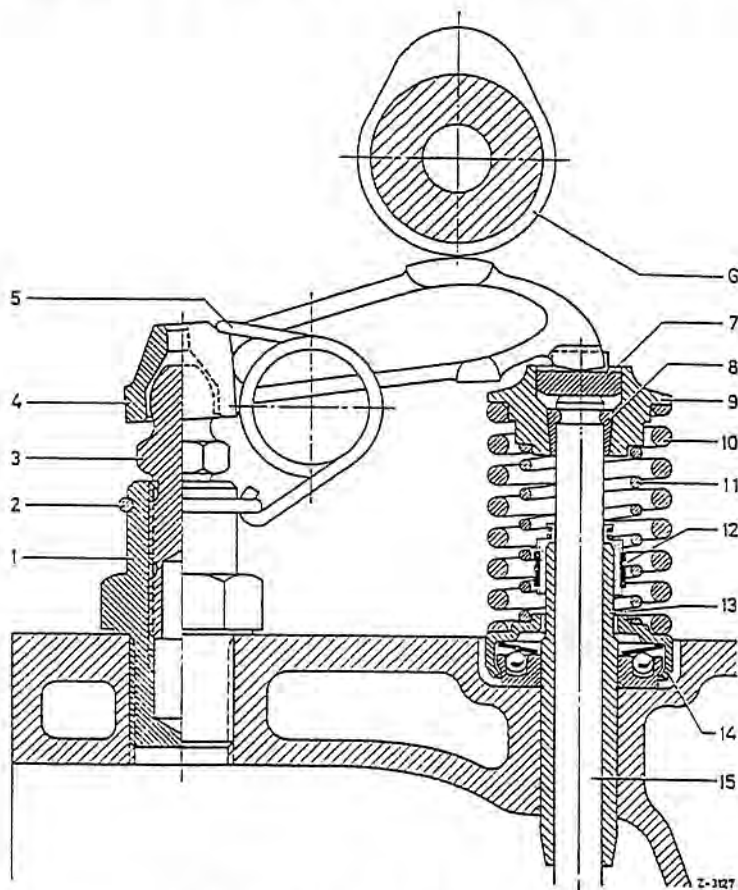

Fig. 00-3/1
On all gasoline and gasoline injection engines of Models 190 c to 250 SL the tappet clearance is measured between the sliding surface of the rocker arm and the cam base circle of the camshaft, on Models 300 SE, 300 SEb and 300 SEL between valve shaft end and adjusting screw or ball socket, on Models 190 Dc and 200 D between rocker arm (6) and cap nut (7) (see Figs. 00-3/1, 4 and 6).